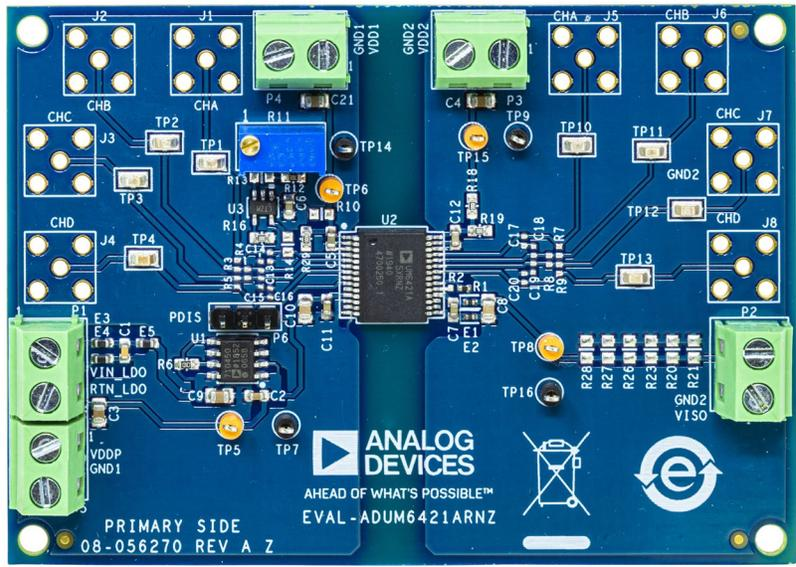
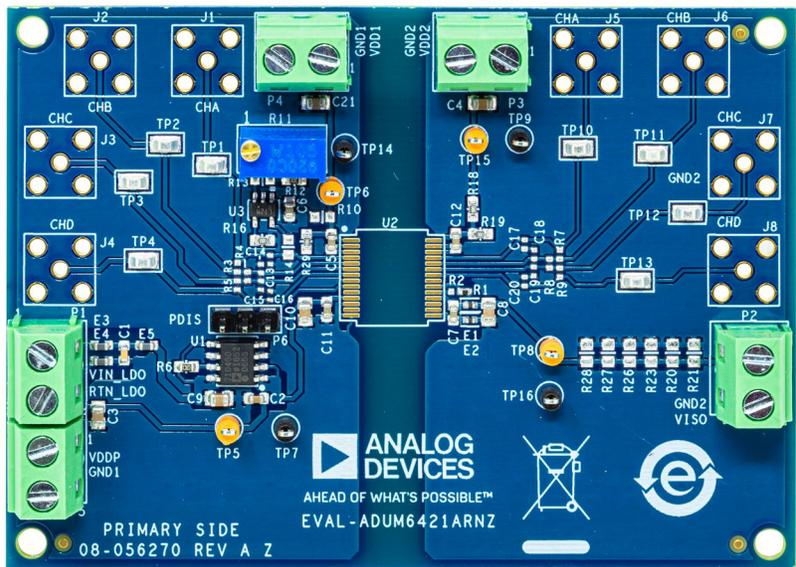
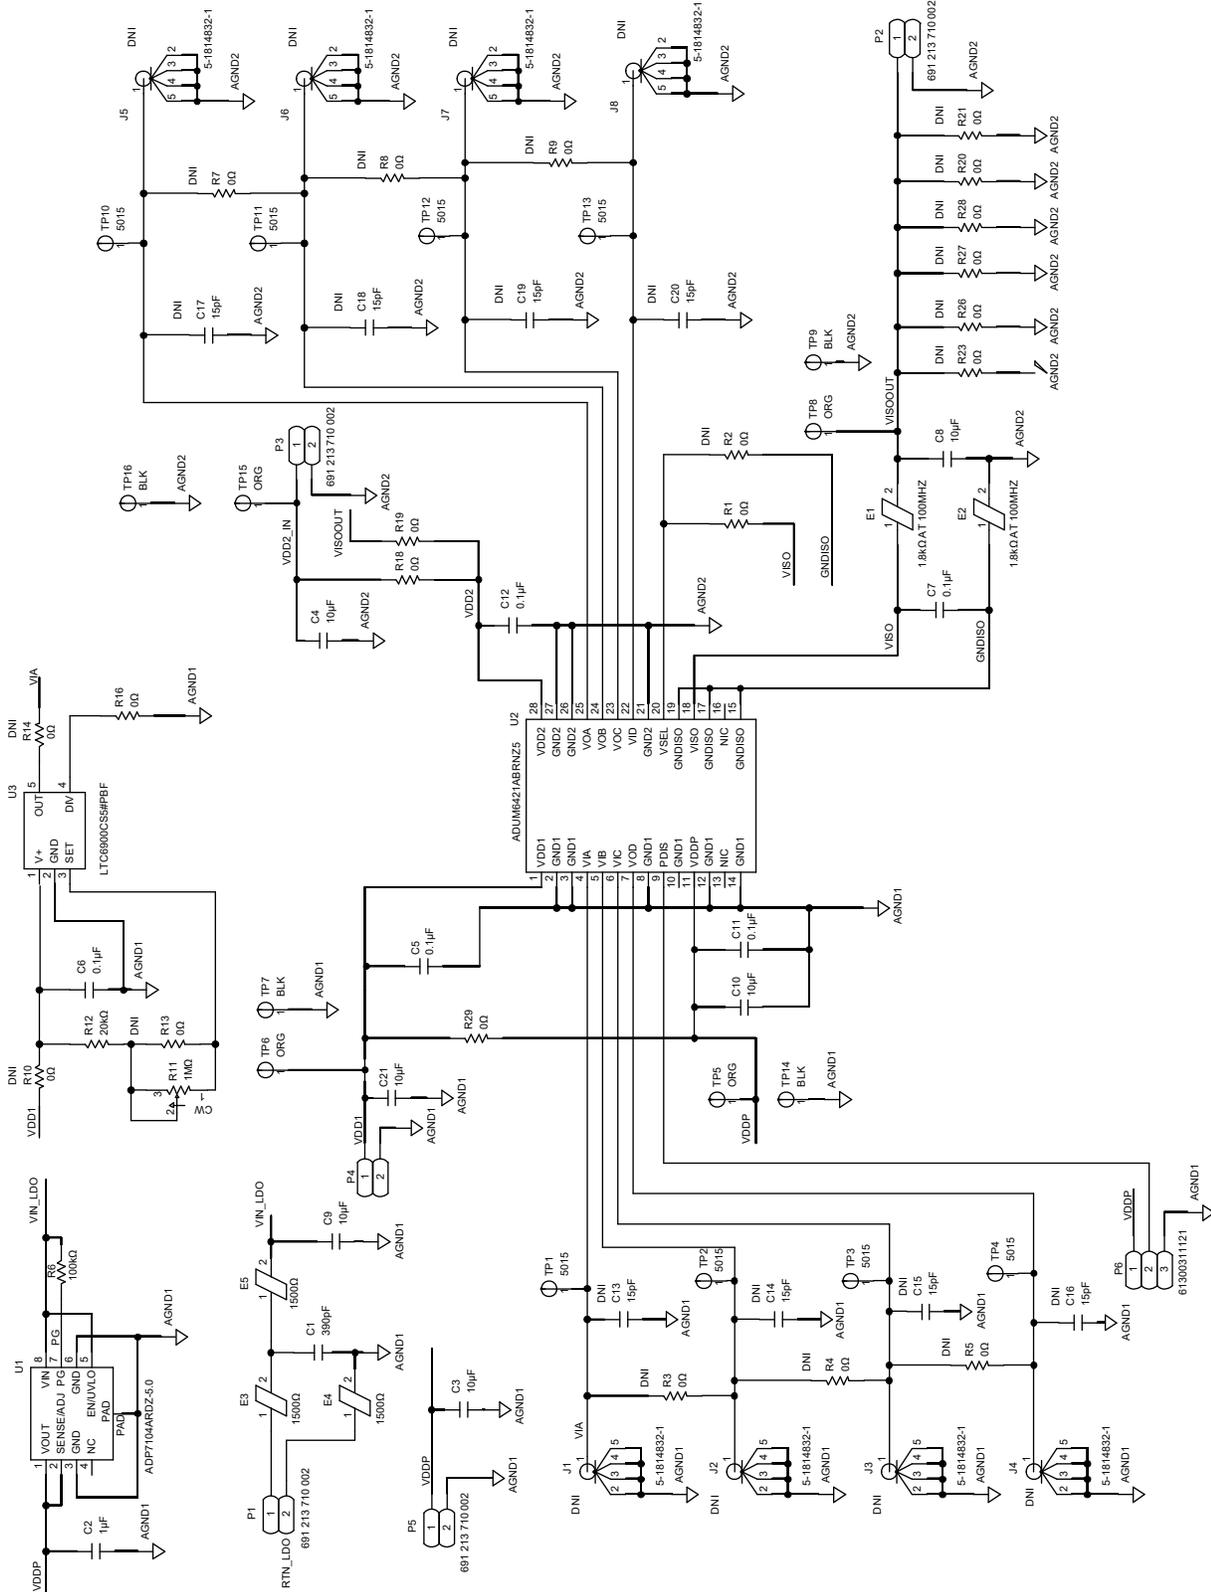

Figure 1. EVAL-ADUM6421ARNZ
Figure 2. EVAL-ADUM6421AURNZ
Figure 6. EVAL-ADUM6421ARNZ/EVAL-ADUM6421AURNZ Schematic
Figure 1 and Figure 2 show the EVAL-ADUM6421ARNZ and EVAL-ADUM6421AURNZ, respectively. The ADuM6420A/ADuM6421A/ADuM6422A/ADuM6423A/ADuM6424A can be powered directly or by the on-board low dropout (LDO) regulator. Either power scheme can be used without modification to the evaluation boards. The LDO input supply and return, Pin 1 and Pin 2, respectively, of Screw Terminal P1 (marked VIN\_LDO and RTN\_LDO in Figure 6), requires a power supply voltage of 6 V to 9 V. The LDO supply input is filtered by a ferrite bead network. The LDO generates the required 5 V to the ADuM6420A/ADuM6421A/ADuM6422A/ADuM6423A/ADuM6424A  $V_{DDP}$  pin. A 9 V battery can power the evaluation boards (when testing for electromagnetic compatibility (EMC), for example). Alternatively, the ADuM6420A/ADuM6421A/ADuM6422A/ADuM6423A/ADuM6424A can be powered directly with a 5 V supply through Pin 1 of Screw Terminal P5 (marked VDDP in Figure 6).
In both power schemes, the power supply return connects to Pin 2 of Screw Terminal P1 or P5 (marked AGND1 in Figure 6).
- Connect the  $V_{ISO}$  load (shown in Figure 6) using a PCB trace. Do not connect the  $V_{ISO}$  load to a power plane.